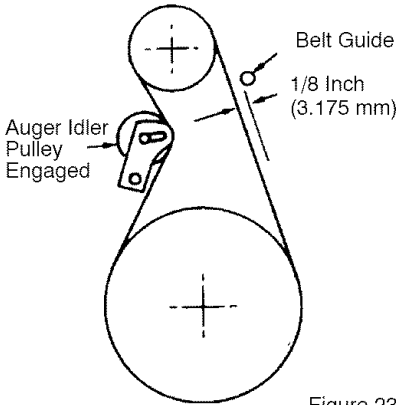

Figure 23
3. Measure the distance between the belt guide and belt. The distance should be $\frac{1}{8}$ inch (3.175 mm) for guide. See Figure 23.